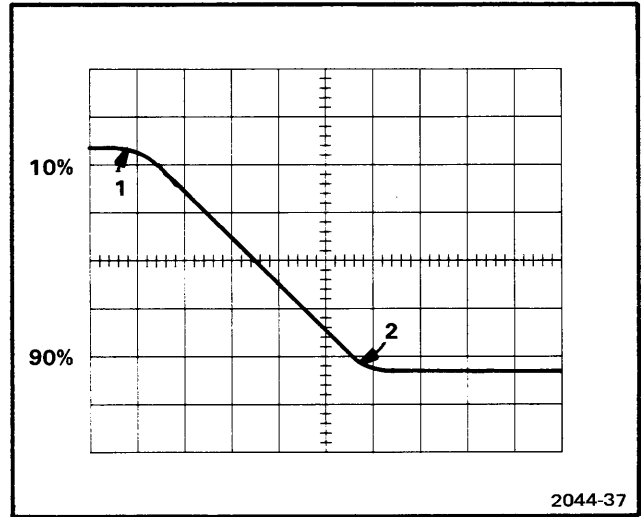

Fig. 4-5. Bottom Level Clamp Adjustment.
- e. Adjust Top Level Clamp, (R615) so that the transitions at the top and bottom of the trailing edge transition look alike. See Fig. 4-5.